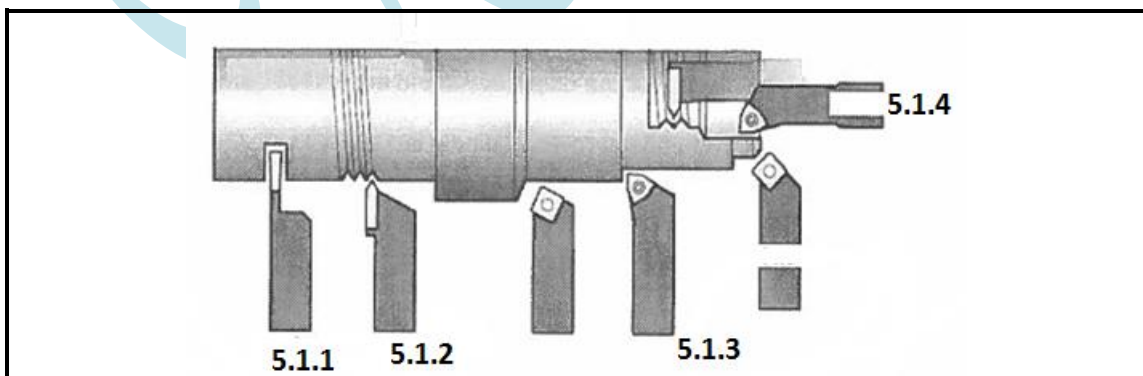

FIGURE 3
5.1 Identify the machining processes as indicated in FIGURE 3 below. Write only the answer next to the question number (5.1.1–5.1.4) in the ANSWER BOOK.